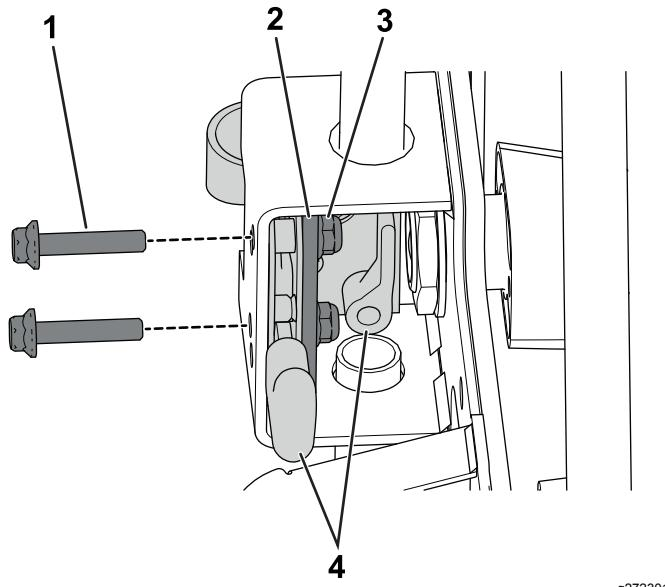

Figure 1
1. Remove the bolts, support plate, and nuts that secure the latch assembly to the handle mount (Figure 1).
6. Install the latch assembly to the handle mount using the hardware that you removed in step 1; refer to Figure 1.